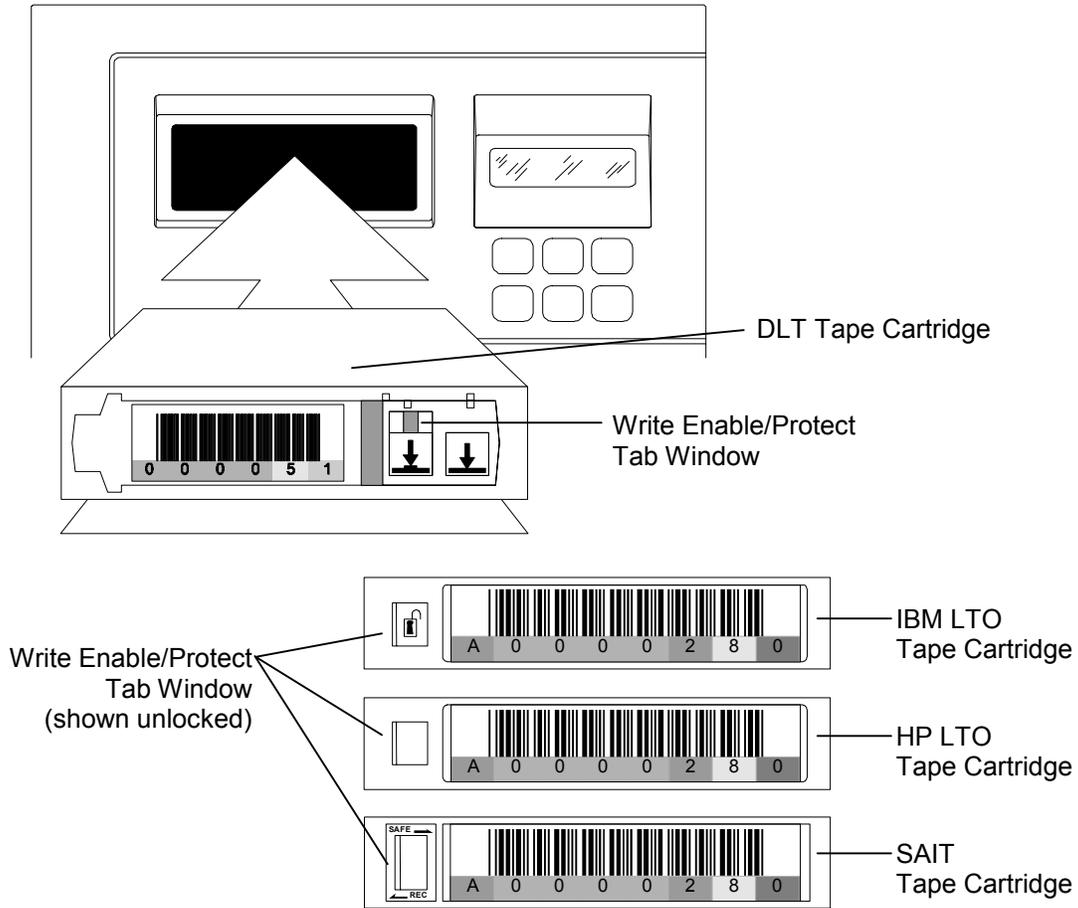

Figure 4-3 Inserting a Tape Cartridge into the I/O Port
2. Make certain the Write Enable/Protect tab is properly set, then fully insert the tape cartridge into the I/O Port slot as shown in Figure 4-3.